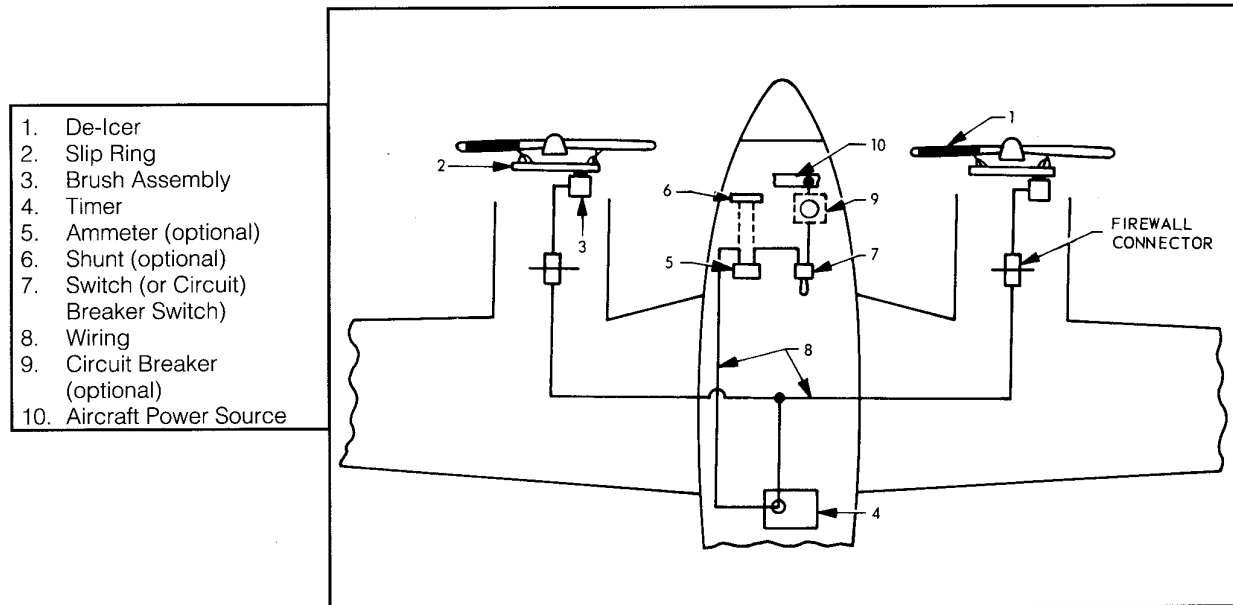

Figure 1 - Typical Twin Engine De-Icing System Schematic
1. A prop de-icing system consists of the components shown in **Figure 1, this page**. Quantity depends on application.